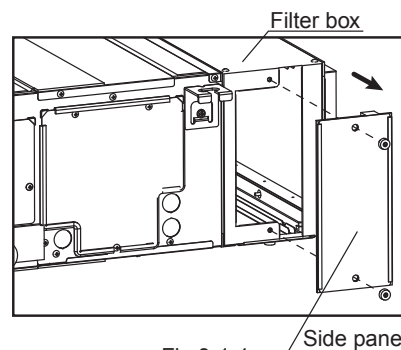

Fig.3-1-1
(1) Remove the side panel from the filter box. (Fig. 3-1-1)